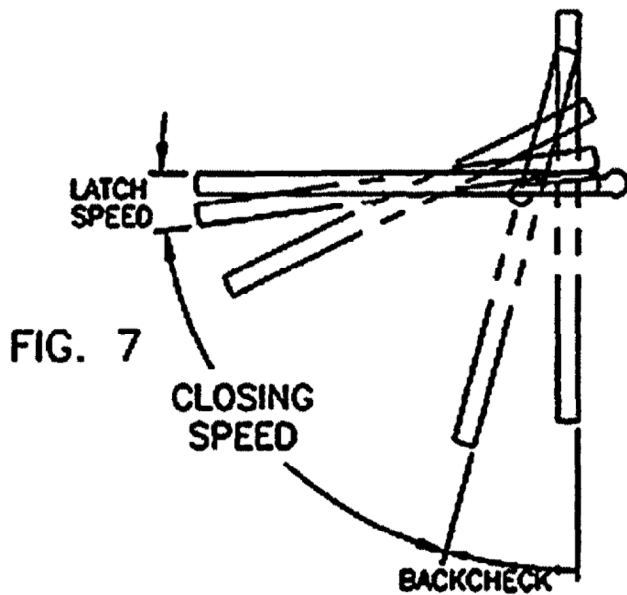
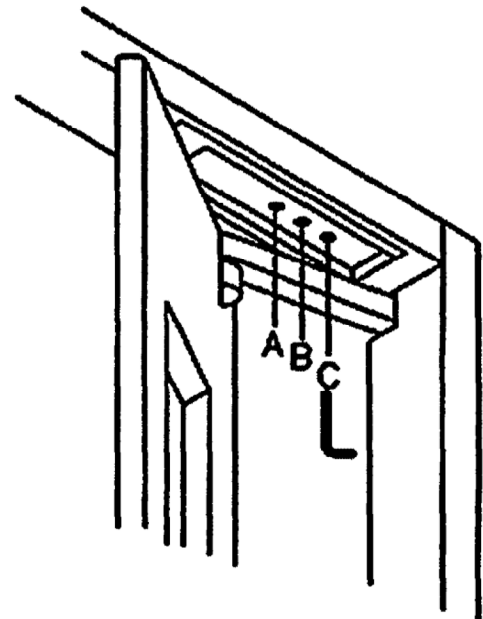

FIG. 7
FIG. 8
12. Door closer adjustments (see FIG. 7 & FIG. 8)